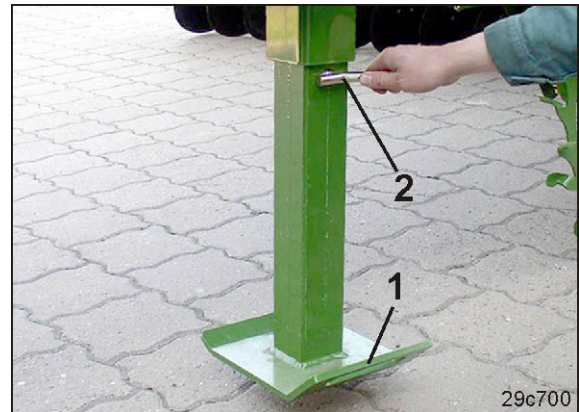

Fig. 148
10. Lift the tractor's lower link until the jack (Fig. 148/1) is just above the ground.
15. Hold the jack tightly by the handle (Fig. 148/1) and remove the positioning pin (Fig. 148/2).
16. Push up the jack and secure it using the positioning pin (Fig. 148/1).